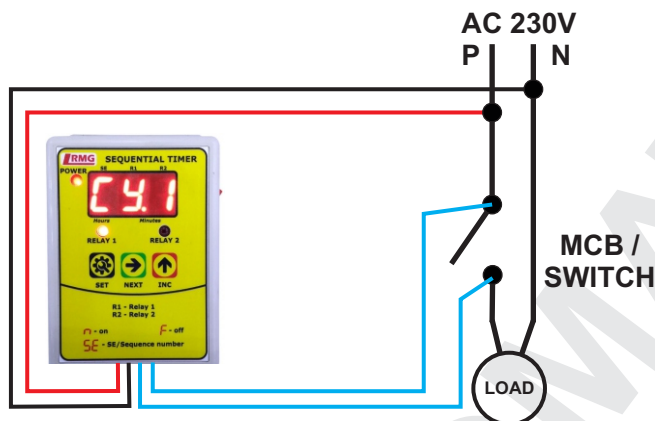

Figure1: 1Φ SWITCH/MCB
Step 2: As per the model purchased, check the label and connect AC supply 230V to red and black wire of timer refer figure 1.
Step 3: Connect blue pair wire to the switch/MCB of the load in parallel as shown in figure 1.